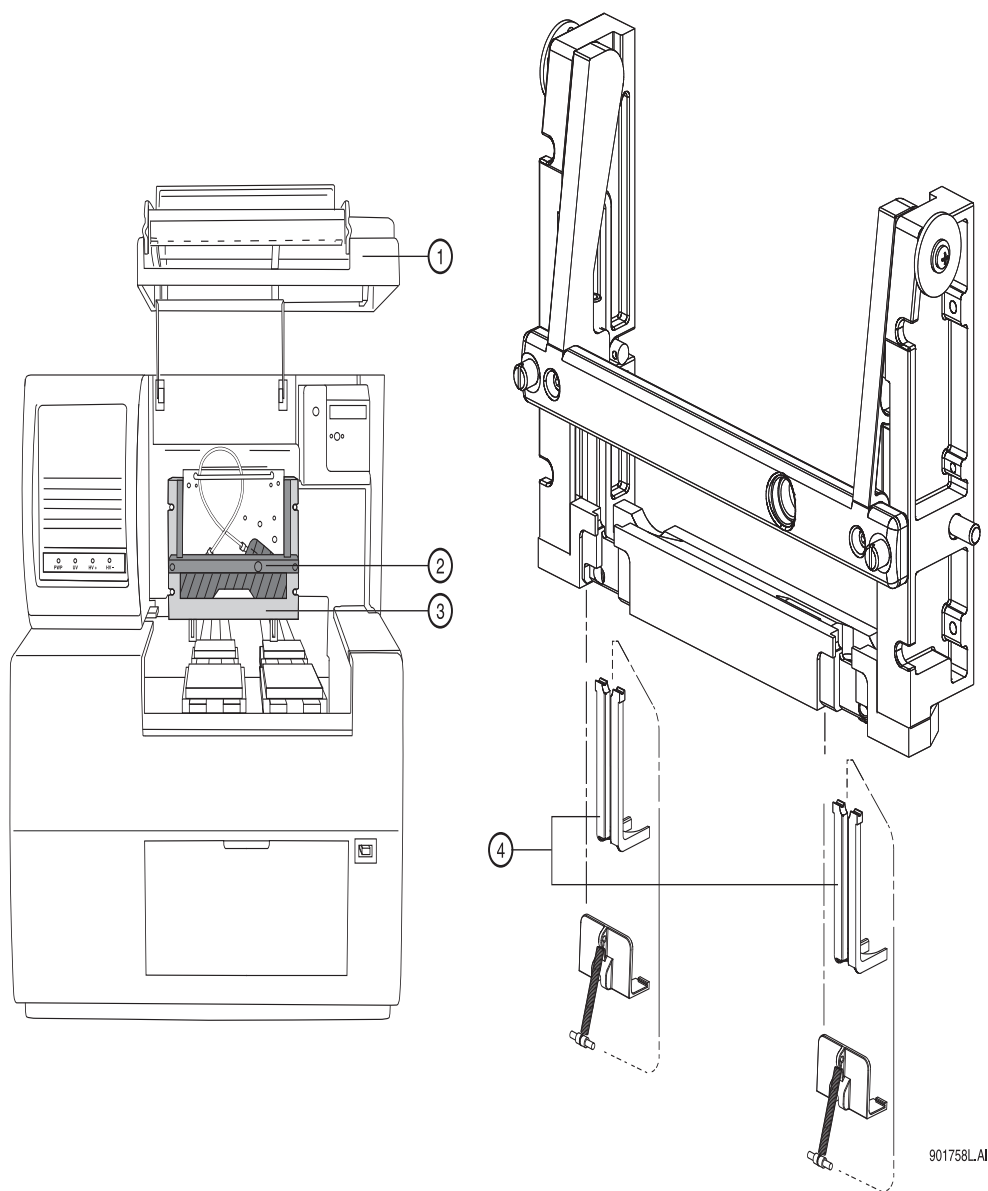
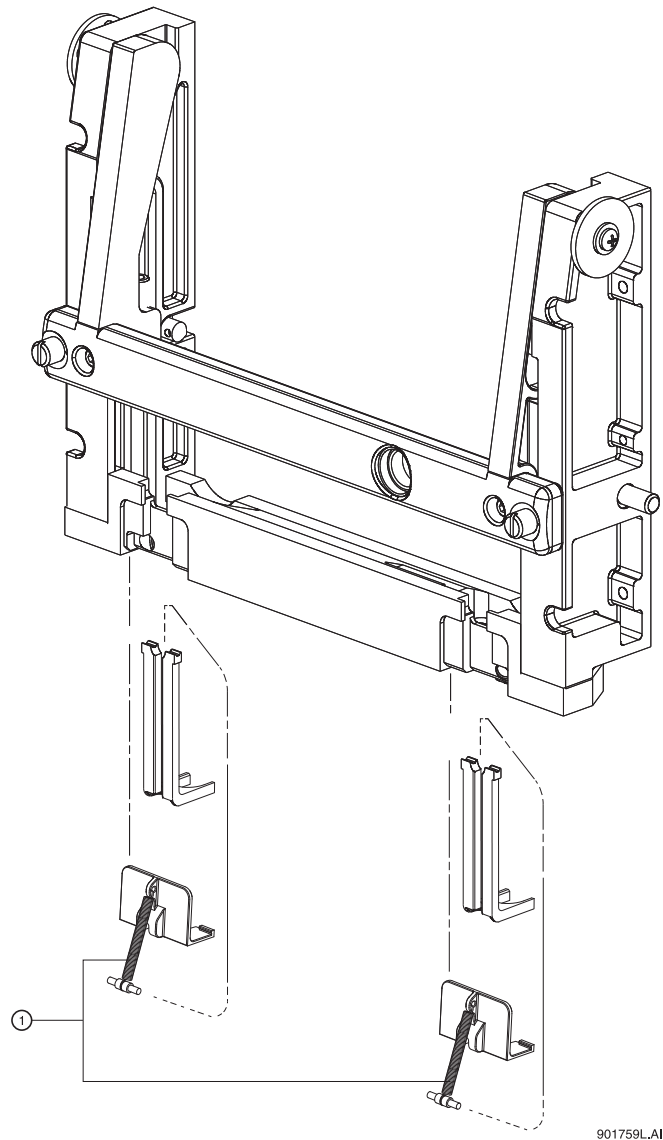

Figure 4.43 Cleaning and Replacing the Electrodes
Figure 4.44 Replacing the Electrode
Referring to Figure 4.43, proceed as follows:
1. The electrodes are attached to the underside of the interface block as shown in Figure 4.43. To access the electrodes for cleaning, remove the ejector and ejector cover in front of the electrode as shown in Figure 4.44.
1. To replace the electrodes, locate the ejector cover and spring retainer as shown in Figure 4.44. To remove the ejector cover and spring retainer, pull out then down to remove.